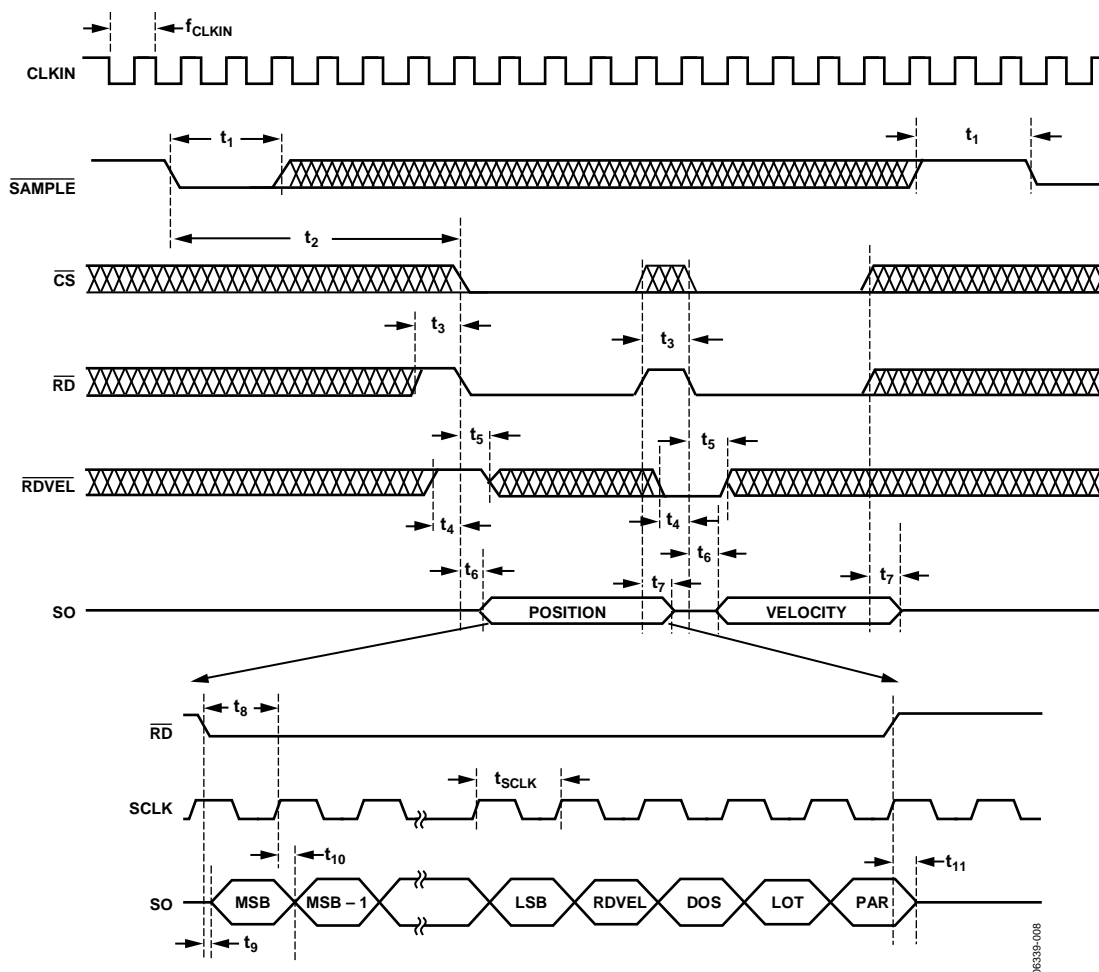

Figure 8. Serial Port Read Timing
The angular position and velocity are available on the AD2S1205 in two 12-bit registers. These registers can be accessed via a 3-wire serial interface (SO, $\overline{\text{RD}}$, and SCLK) that operates at clock rates of up to 25 MHz and is compatible with SPI and DSP interface standards. The serial interface is selected by holding the $\overline{\text{SOE}}$ pin low. Data from the position and velocity integrators are first transferred to the position and velocity registers using the $\overline{\text{SAMPLE}}$ pin. The $\overline{\text{RDVEL}}$ pin selects whether data is transferred from the position or velocity register to the output register, and the $\overline{\text{CS}}$ pin must be held low to transfer data from the selected register to the output register. Finally, the $\overline{\text{RD}}$ input is used to read the data that is clocked out of the output register and is available on the serial output pin (SO). When the serial interface is selected, DB11 is used as the serial output pin (SO), DB10 is used as the serial clock input (SCLK), and Pin DB0 to Pin DB9 are placed into the high impedance state. The timing requirements for the read cycle are described in Figure 8.
The output shift register is 16 bits wide. Data is clocked out of the device as a 16-bit word by the serial clock input (SCLK). The timing diagram for this operation is shown in Figure 8. The 16-bit word consists of 12 bits of angular data (position or velocity, depending on $\overline{\text{RDVEL}}$ input), one $\overline{\text{RDVEL}}$ status bit, and three status bits (a parity bit, a degradation of signal bit, and a loss of tracking bit). Data is clocked out MSB first from the SO pin, beginning with DB15. DB15 through DB4 correspond to the angular information. The angular position data format is unsigned binary, with all 0s corresponding to 0° and all 1s corresponding to $360^\circ - 1 \text{ LSB}$. The angular velocity data format is twos complement, with the MSB representing the rotation direction. DB3 is the $\overline{\text{RDVEL}}$ status bit, with a 1 indicating position and a 0 indicating velocity. DB2 is DOS, the degradation of signal flag (refer to the Fault Detection Circuit section). Bit 1 is LOT, the loss of tracking flag (refer to the Fault Detection Circuit section). Bit 0 is PAR, the parity bit. The position and velocity data are in odd parity format, and the data readback always contains an odd number of logic highs (1s).